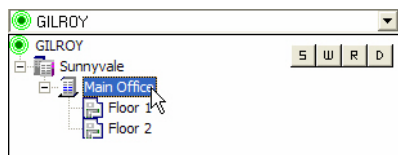

Figure 4-40: Selecting a location from the network tree
- 1) From the Manage Sensors screen, click the Location down arrow and select a location of interest from the network tree. See Figure 4-40.